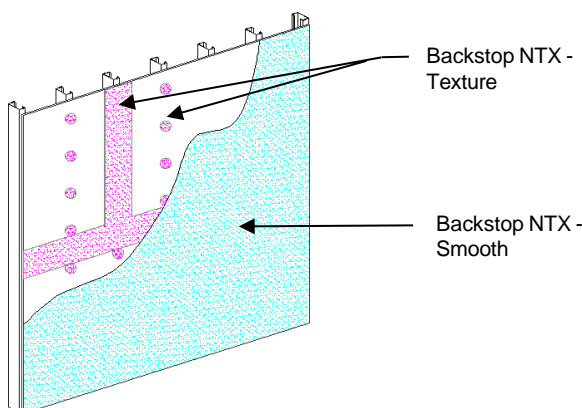

Figure 4
- 2) Backstop NTX Smooth material should be applied in a uniform, continuous film at the recommended coverage rate – Figure 4. **NOTE: Sheathing substrates with a surface texture or high porosity will require additional material.**